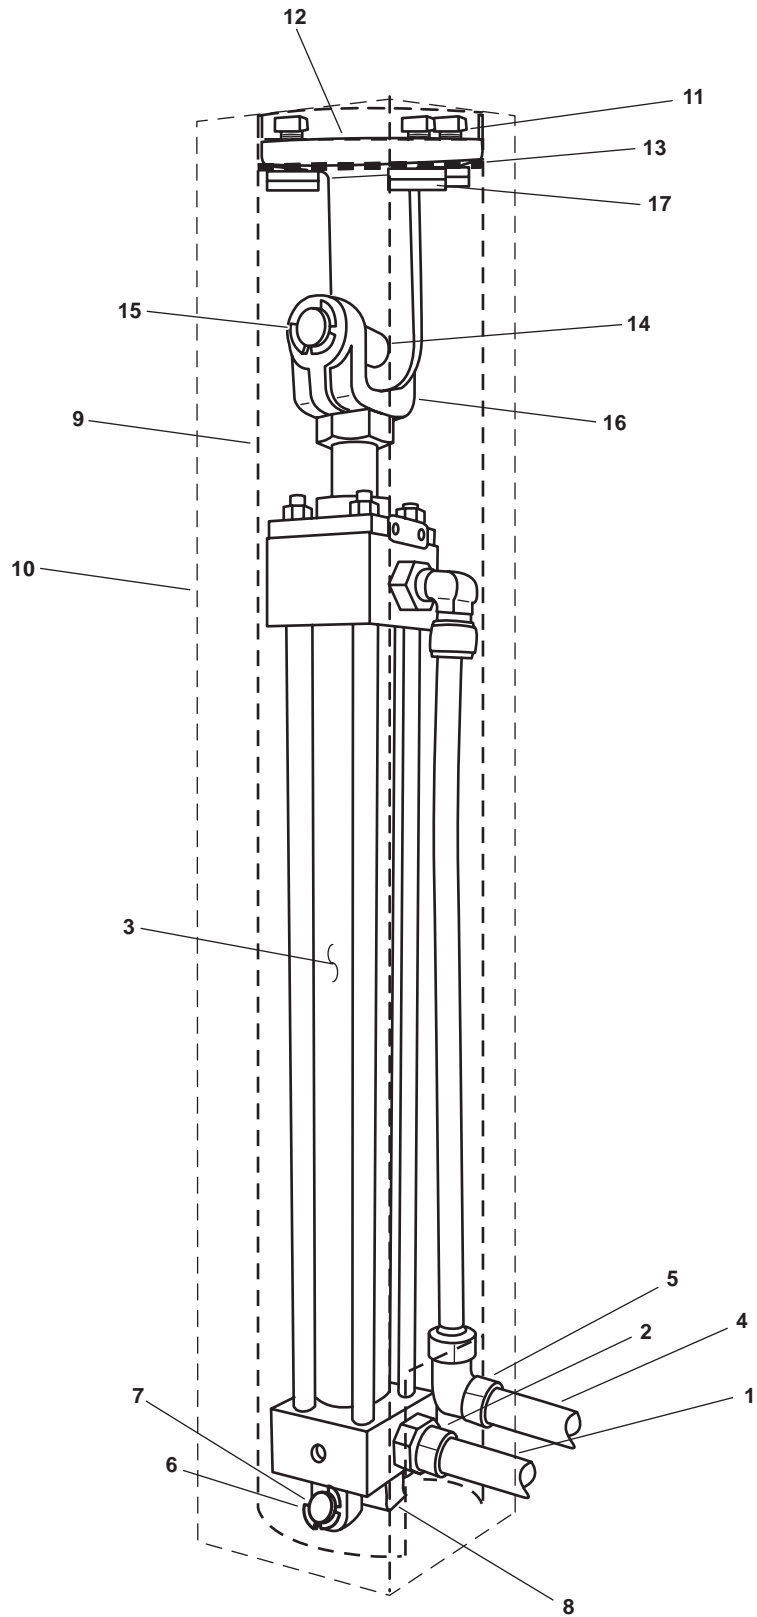

Figure 1. Tow Pin Cylinder
1. Place a suitable drain pan under the hydraulic fluid supply hose (figure 1, item 1), and release the system hydraulic pressure from the hydraulic fluid supply hose by slowly loosening the hydraulic fluid supply hose fitting (figure 1, item 2). Do not remove the hydraulic fluid supply hose until all system hydraulic pressure has been released.
2. Remove the hydraulic fluid supply hose (figure 1, item 1) from the hydraulic cylinder (figure 1, item 3). Place an identification tag or label on the hydraulic fluid supply hose.
3. Place a suitable drain pan under the hydraulic fluid return hose (figure 1, item 4) and release the system hydraulic pressure from the hydraulic fluid return hose by slowly loosening the hydraulic fluid return hose fitting (figure 1, item 5). Do not remove the hydraulic fluid return hose until all system hydraulic pressure has been released.
4. Remove the hydraulic fluid return hose (figure 1, item 4) from the hydraulic cylinder (figure 1, item 3). Place an identification tag or label on the hydraulic fluid return hose.
5. Remove the two retaining clips (figure 1, item 6) from the clevis pin (figure 1, item 7). Discard the retaining clips.
6. Drive the clevis pin (figure 1, item 7) from the hydraulic cylinder (figure 1, item 3) and the deck pad eye (figure 1, item 8) using a drift pin and hammer.
7. Remove the tow pin (figure 1, item 9) from the tow pin retaining block (figure 1, item 10). Record the location that the tow pin cylinder was removed from.
8. Remove the three bolts (figure 1, item 11) securing the tow pin cylinder cap (figure 1, item 12).
9. Push the hydraulic cylinder (figure 1, item 3) and the tow pin cylinder cap (figure 1 item 12) up from the tow pin lip (figure 1, item 13) to expose the hydraulic actuator clevis pin (figure 1, item 14).
10. Remove the two retaining clips (figure 1, item 15) from the clevis pin (figure 1, item 14). Discard the retaining clips.
11. Drive the clevis pin (figure 1, item 14) from the hydraulic cylinder knuckle (figure 1, item 16) and the tow pin cylinder cap (figure 1, item 12) using a drift pin and hammer.
12. Remove the tow pin cylinder cap (figure 1, item 12) from the tow pin (figure 1, item 9).
13. Remove the hydraulic cylinder (figure 1, item 3) from the bottom of the tow pin (figure 1, item 9).
1. Install the hydraulic cylinder (figure 1, item 3) into the bottom of the tow pin (figure 1, item 9), and slide it up far enough to expose the hydraulic cylinder knuckle (figure 1, item 16).
2. Lubricate the clevis pin (figure 1, item 14) with wire rope exposed grease.
3. Install the clevis pin (figure 1, item 14) into the hydraulic cylinder knuckle (figure 1, item 16) and the tow pin cylinder cap (figure 1, item 12).
4. Install the two new retaining clips (figure 1, item 15) on the clevis pin (figure 1, item 14).
5. Slide the hydraulic cylinder (figure 1, item 3) and the tow pin cylinder cap (figure 1, item 12) down until the tow pin cylinder cap rests on the tow pin lip (figure 1, item 13) and the three bolt holes are aligned with the mounting pads (figure 1, item 17).
6. Install the three bolts (figure 1, item 11).
7. Install the tow pin (figure 1, item 9) into the tow pin retaining block (figure 1, item 10).
8. Lubricate the clevis pin (figure 1, item 7) with wire rope exposed grease.
9. Install the clevis pin (figure 1, item 7) into the hydraulic cylinder (figure 1, item 3) and the deck pad eye (figure 1, item 8).
10. Install the two new retaining clips (figure 1, item 6) on to the clevis pin (figure 1, item 7).
11. Install the hydraulic fluid return hose (figure 1, item 4) on the hydraulic cylinder (figure 1, item 3) and tighten the hydraulic fluid return hose fitting (figure 1, item 5).
12. Install the hydraulic fluid supply hose (figure 1, item 1) on the hydraulic cylinder (figure 1, item 3) and tighten the hydraulic fluid supply hose fitting (figure 1, item 2).